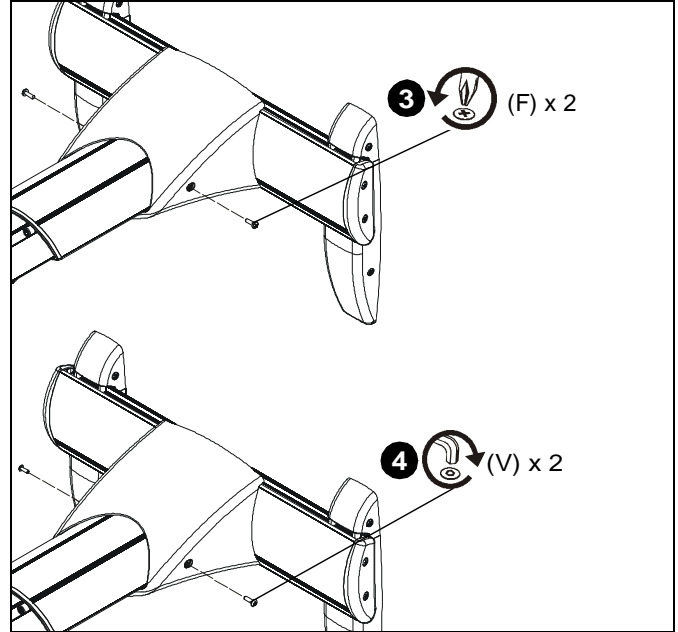

Figure 44
3. Remove two #8-32 x 1/2" Phillips pan machine screws (F) holding mount cover on projector arm. (See Figure 44)
4. Install two #8-32 x 1/2" button head security screws (V) into holes on mount cover. (See Figure 44)